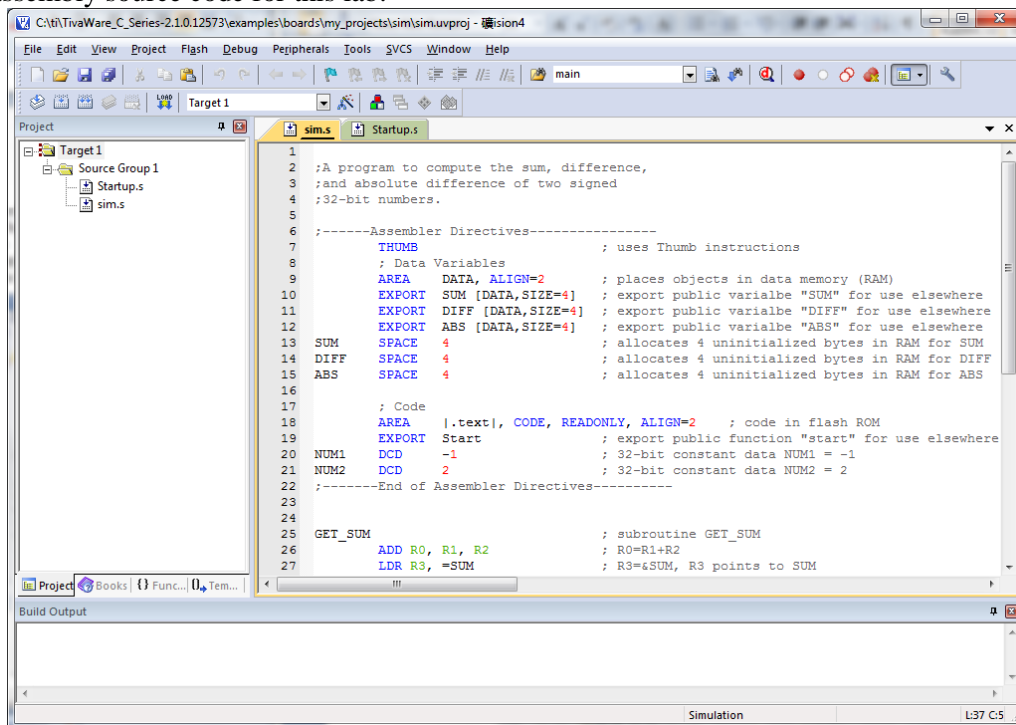

Figure 4
4. Use the dialog box to navigate to the *sim* project. From the location where you installed TivaWare, the *sim* project should be located in: *C:\ti\TivaWare_C_Series-2.1.0.12573\examples\boards\my_projects\sim*. Select the *sim.uvproj* project file and click Open. The project opens in the IDE (see Figure 4). In the *Project* window on the left side, there are two *.s* files under *Source Group 1*. **Startup.s** contains assembly source code to define the stack, reset vector, and interrupt vectors. All projects in this class will include a **Startup.s** file, and you do not need to make any changes to the **Startup.s** file for this lab. The **sim.s** file contains the assembly source code for this lab.